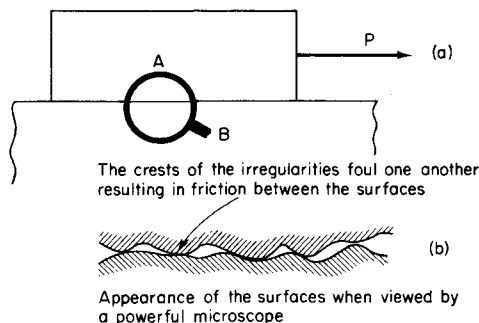

Fig. 2.57 The cause of friction
**The causes of friction.** When we attempt to move one surface over another surface as shown in Fig. 2.57 a resistance is set up which prevents (or tends to prevent) movement. This resistance to movement is said to be the result of *friction* between the two surfaces in contact.
Fig. 2.57 (a) shows two machine blocks in contact with each other. Although the two faces in contact appear quite flat to the naked eye, a powerful microscope reveals that there are irregularities in the surfaces as shown at (b). The crests of the irregularities foul each other and the resistance to motion is thus created. The block A will not move over block B until the force P is greater than the frictional resistance.
**The recognizable effects of friction.** It will be seen from Fig. 2.57 (b) that actual contact between the faces of the two blocks takes place on only a few very small